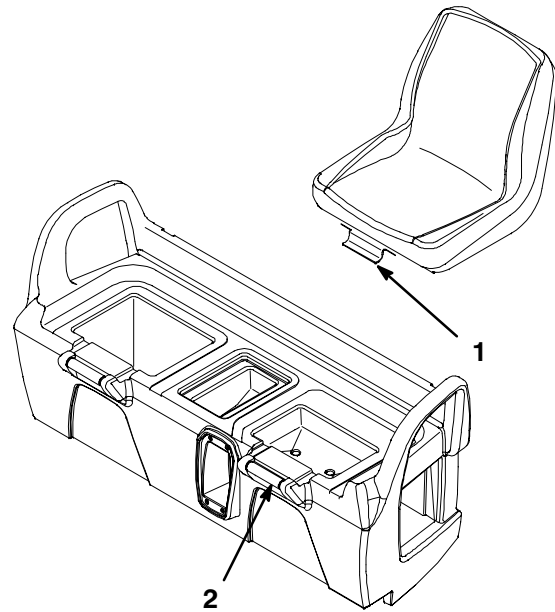

Figure 6
1. Insert the seat bracket into the seat base opening and pivot the seat downward (Fig. 6).